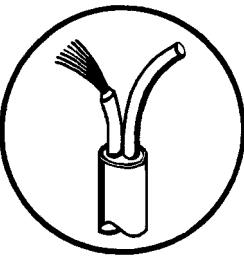

Fig. 5
5. Remove a half-inch of the insulation from the end of the wires. Do not cut any of the small wires (Fig. 5).